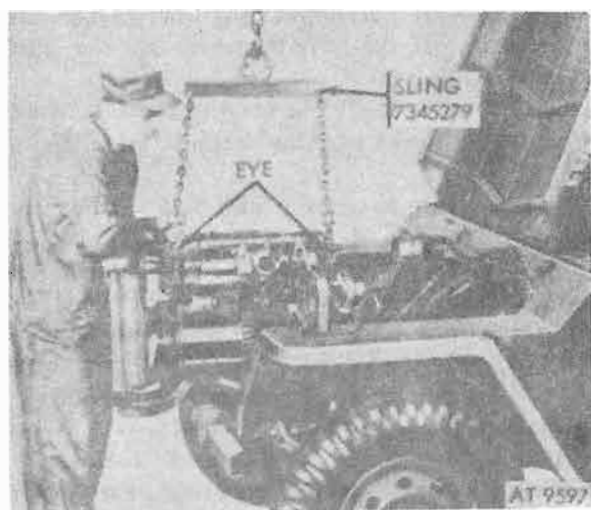

Figure 4-39. Power plant assembly lifting eyes.
(32) Hook sling into lifting eyes (fig. 4-39). Lift power plant assembly, counterbalancing front portion so as to prevent damage to adjacent parts.